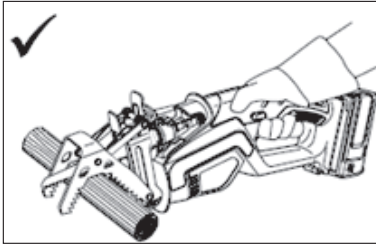
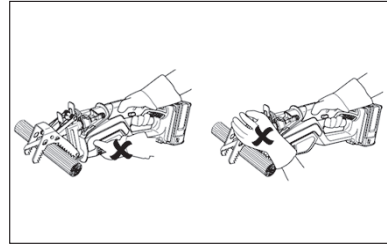

Fig. 14
Fig. 15
1. Hold the product with one hand only (Fig. 14). Do not attempt to hold the product with two hands (Fig. 15).